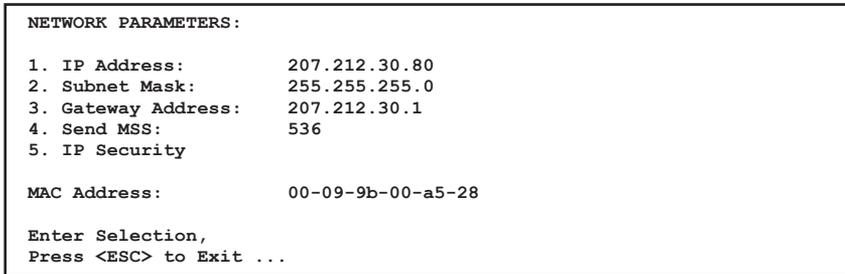

Figure 5.10: Network Parameters Menu - Text Interface
- **Text Interface:** Type `/N` and press `[Enter]`. The Network Parameters Menu will be displayed as shown in Figure 5.10.